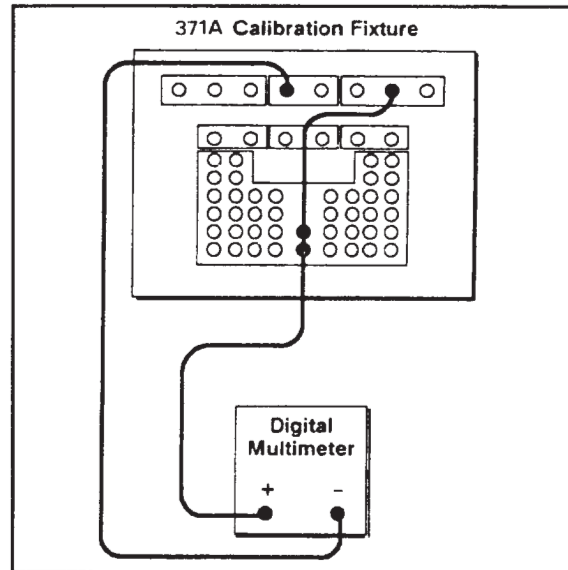

Figure 4-11. Calibration Fixture connections for adjusting Loop Gain in current source mode.
4. Connect a shorting bar over the 1 K Ω terminals as shown in Figure 4-11.